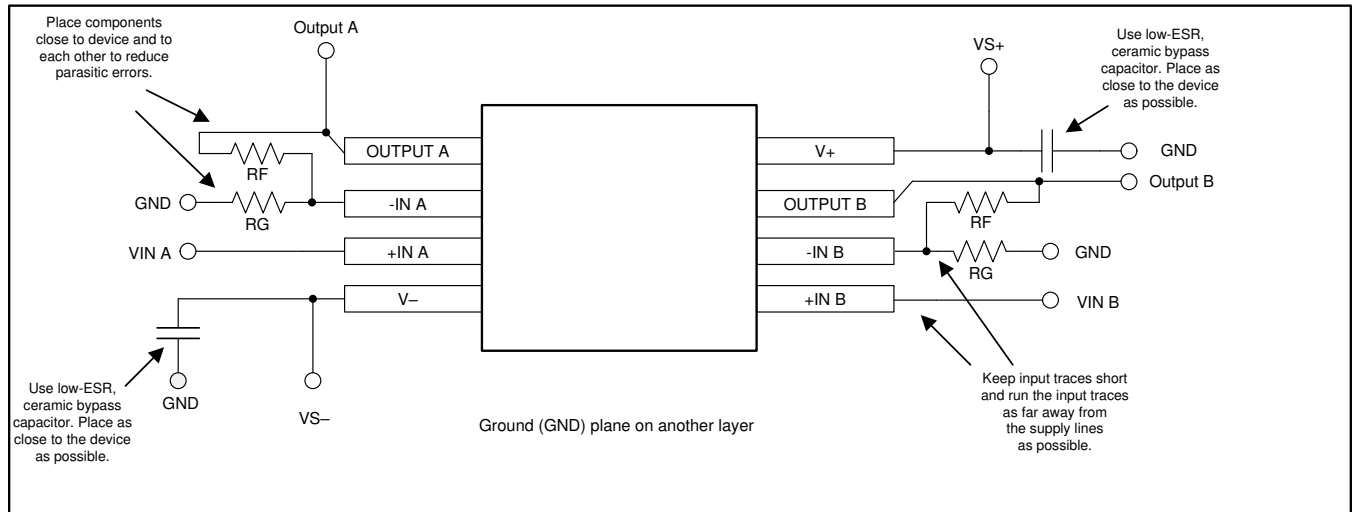

Figure 38. Operational Amplifier Board Layout for Noninverting Configuration
- Place the external components as close to the device as possible. As shown in Figure 38, keeping  $R_F$  and  $R_G$  close to the inverting input minimizes parasitic capacitance.